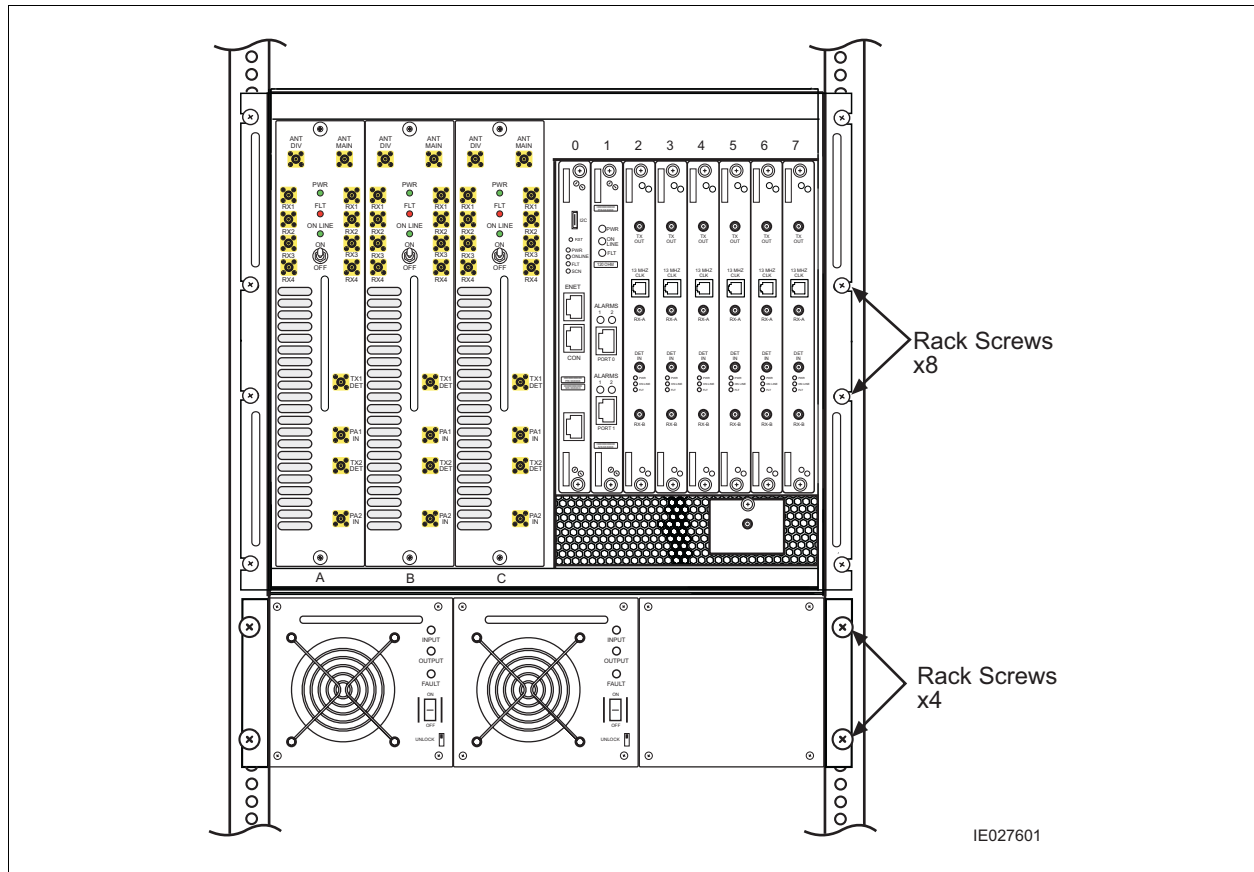

Figure 2-2: Attaching the Subrack Assemblies
- 4 Using the same procedure, align and mount the power supply subrack assembly below the Micro BTS subrack assembly, as shown in Figure 2-2.